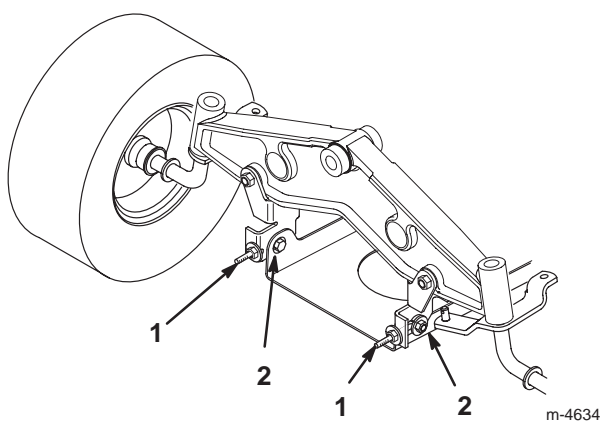

Figure 53
10. To adjust the front-to-rear blade slope, loosen the front pivot plate mounting bolts slightly (Fig. 53).
11. Rotate the locknuts on the eyebolts to change the adjustment (Fig. 53). To raise the front of the mower, tighten the eyebolt locknuts. To lower the front of the mower, loosen the eyebolt locknuts.
13. When the front-to-rear slope is correct, tighten the pivot plate mounting bolts (Fig. 53).